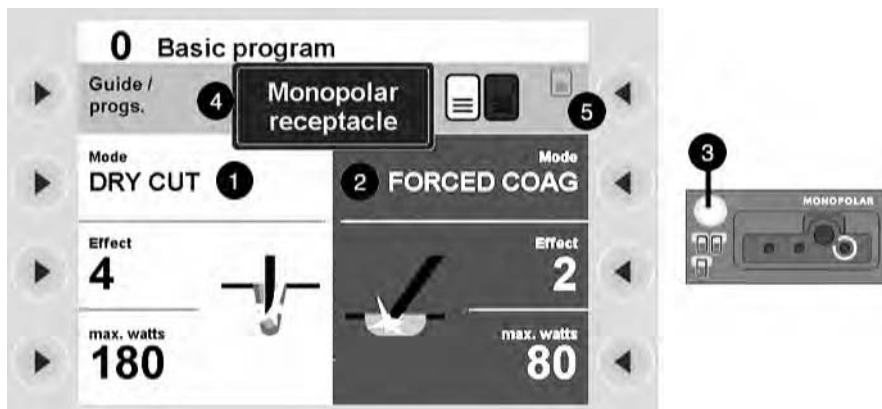

Fig. 5-7
In Fig. 5-7 the window CUT/COAG Settings focuses attention on the functions of a receptacle for the respective CUT settings (1) and COAG settings (2) for each receptacle.